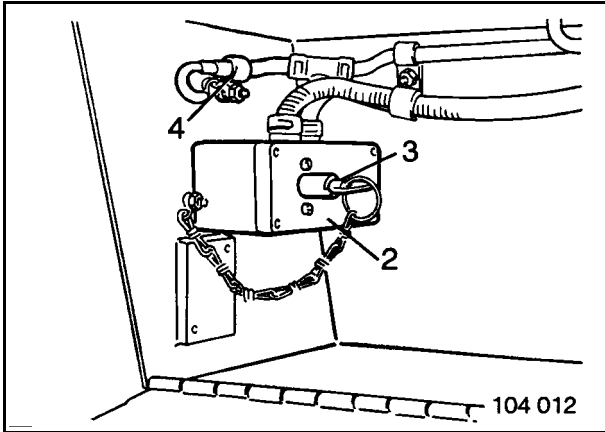

Fig. 2-30:
The refuelling system consists of an electrical pump, filling hose, switch box (2, Fig. 2-30:) and key-switch (3).
Check before refuelling that the earthing strap (4, Fig. 2-30:) is attached to the chassis. Sparking caused by static or electric charges may set fuel on fire.